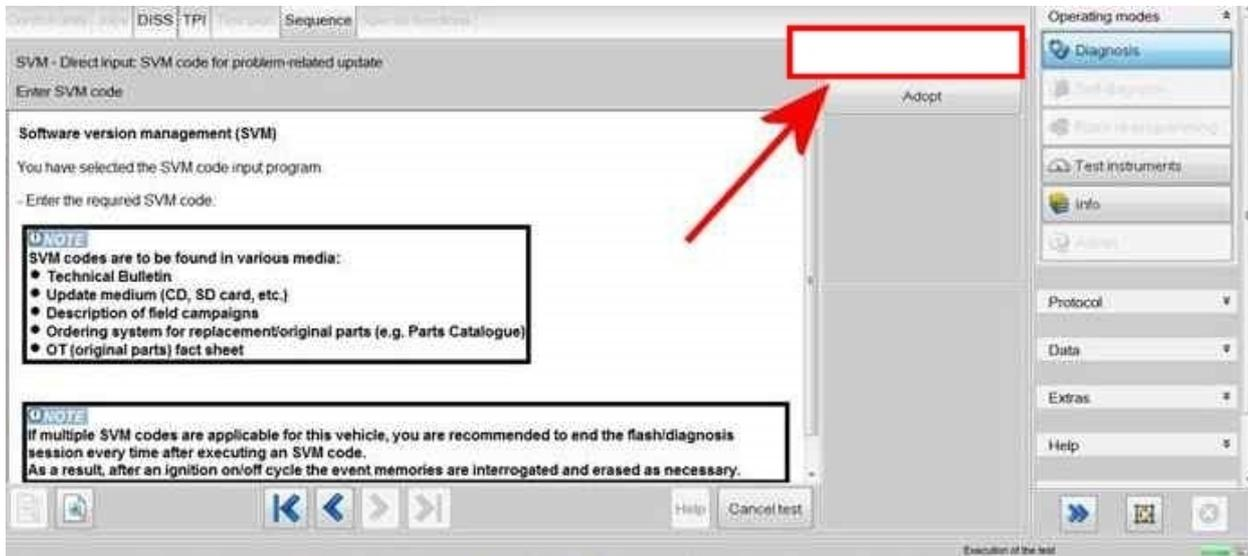

Figure 14
22. Navigate to 'SVM – Code Input' and enter the SVM Code and select adopt (Figure 14)